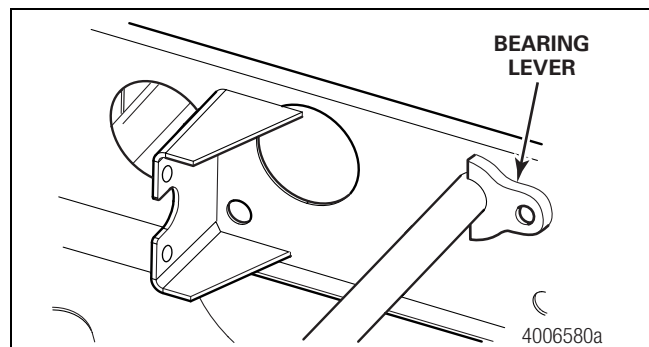
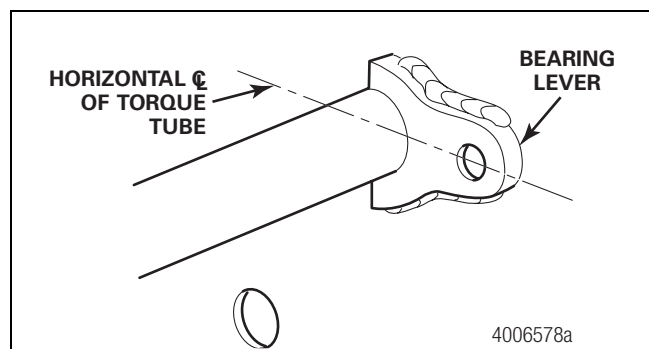

Figure 6
Figure 7
7. Position the bearing lever. Figure 6. Weld the lever to the cross member to increase bearing surface for the torque tube. Figure 7.